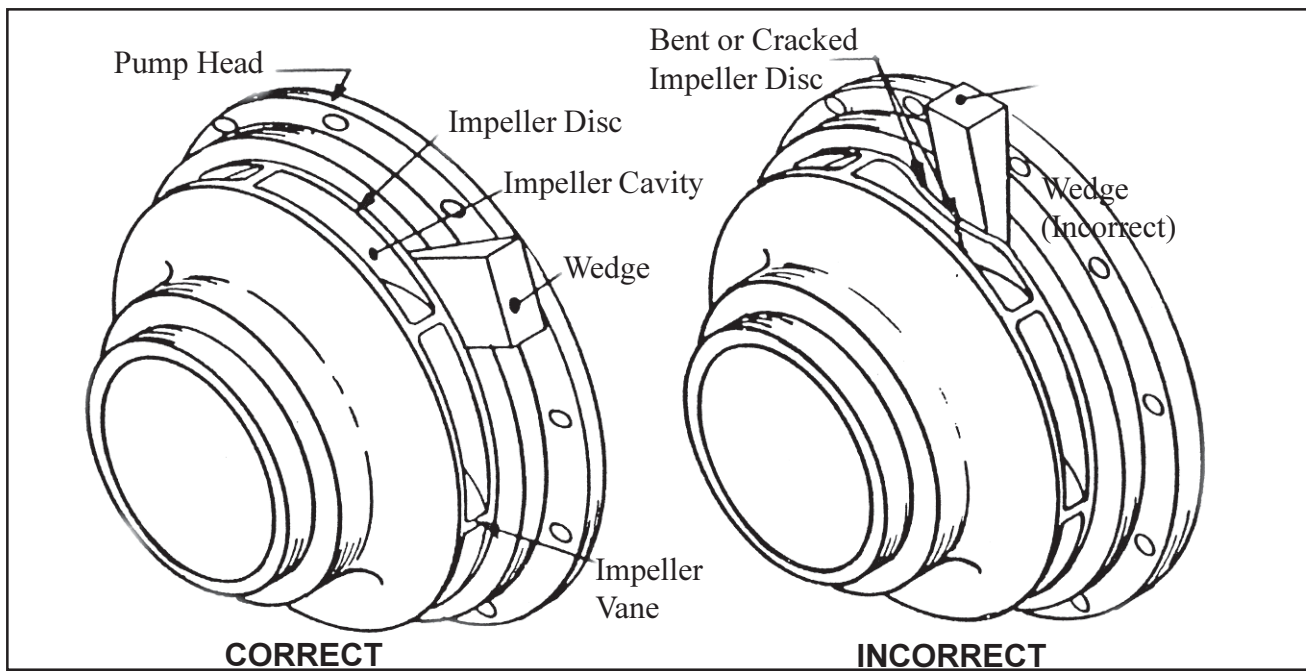

Figure 4
- d) Remove impeller by putting hardwood wedges on each side of impeller, between impeller and pump head. The wedges should bear against impeller disc directly behind impeller vanes to prevent damaging the impeller; refer to figure 4. Tap end of engine shaft with a soft (rawhide, rubber) headed mallet, while maintaining pressure with wedges until impeller comes off.